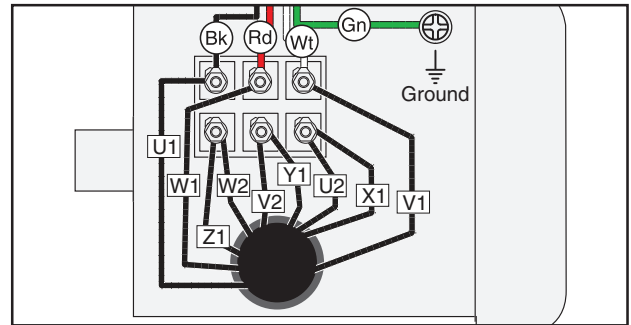

Figure 7. Motor rewired to 440V.
4. Rewire the motor, as shown in **Figure 7**, tighten the hex nuts, then re-install the junction box cover.